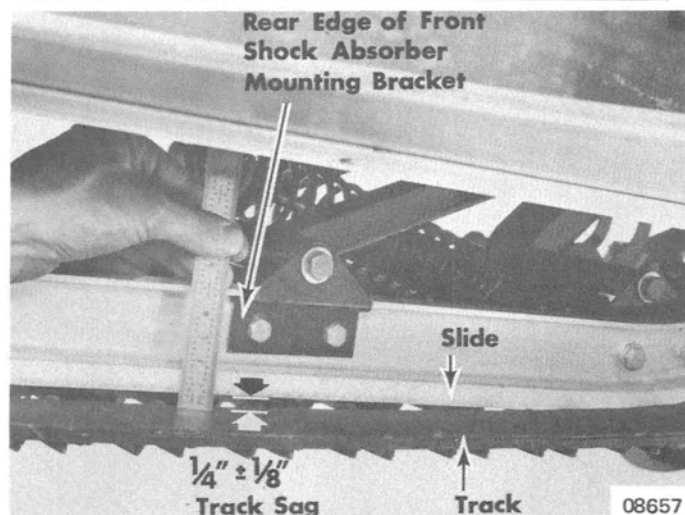
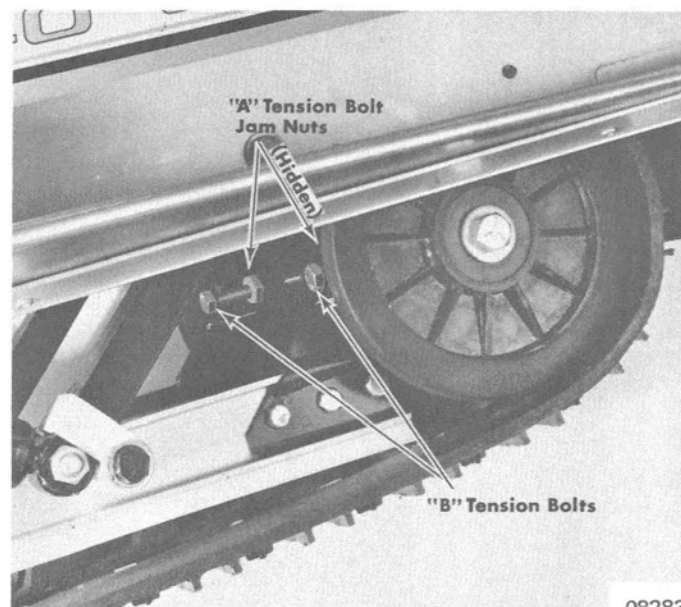

Figure 12. Track Tension
Figure 13. Track Adjusting
Proper track tension and alignment are essential to eliminate undue wear to drive components, track and slide rail suspension and to maintain efficient, economical operation of the snowmobile. Track tension and alignment should be checked after the first hour of operation and every 25 hours of operation thereafter. Tension is correct when a total slack of  $\frac{1}{4}" \pm \frac{1}{8}"$  (6.35mm  $\pm$  3.2mm) in the track is obtained between bottom of each slide and inside surface (bottom) of track. Track tension is measured at rear edge of front shock absorber mounting bracket with entire track supported off ground. (Figure 12) If necessary, adjust track tension as follows.
1. Loosen tension bolt jam nuts "A" on both sides of suspension. (Figure 13)
2. Adjust tension bolts "B" (Figure 13) equally on both sides of suspension until correct tension is attained on both sides, as shown in Figure 12.